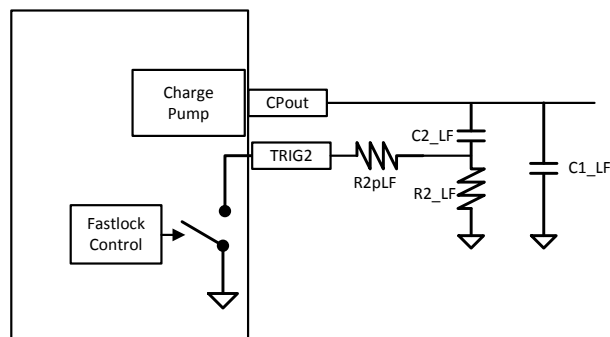

Figure 4. Suggested Schematic to Enable the Variable Loop Bandwidth Filter In Fastlock Mode
3. The loop filter can be configured to have a switchable R2 resistor to increase loop bandwidth and hence reduce lock time. A resistor $R2pLF$ is added in parallel to $R2_LF$ and connected to the a terminal on the PLL to use the internal switch. Any of the terminal $MUXout$, MOD , $TRIG1$, or $TRIG2$ can be configured for the function. The terminal configuration is set as *Output TOC Running*. Also set the terminal as *output inverted OD* (OD for open-drain) so the output will be high impedance in normal operation and act as ground in Fastlock. The suggested schematic for that feature is shown in Figure 4.